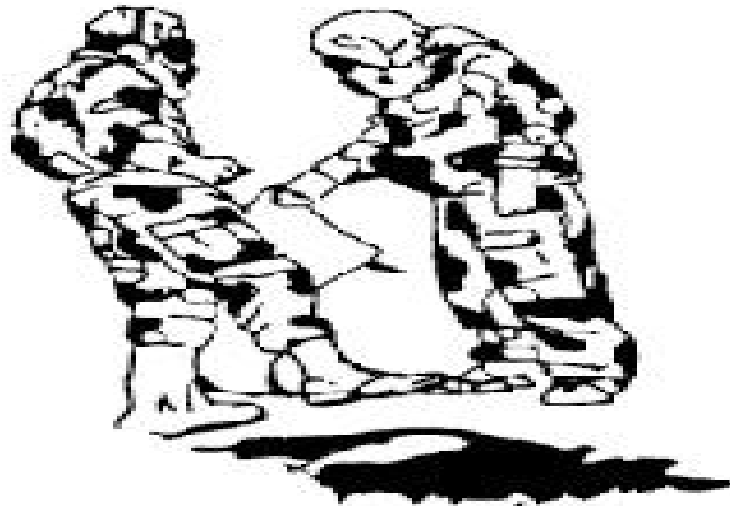

Figure E-92. Removing the overboots.
- d. Step onto your jacket as the overboots are removed (figure E-92).